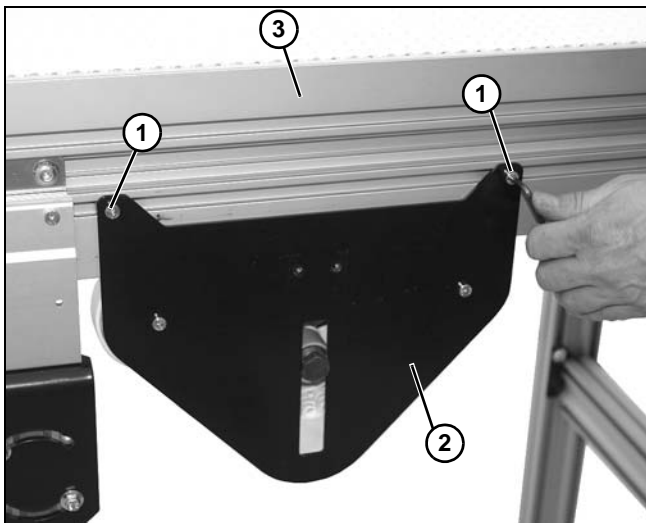

Figure 102
2. Remove two socket head screws (**Figure 102, item 1**) holding weighted take-up assembly (**Figure 102, item 2**) to conveyor frame (**Figure 102, item 3**).